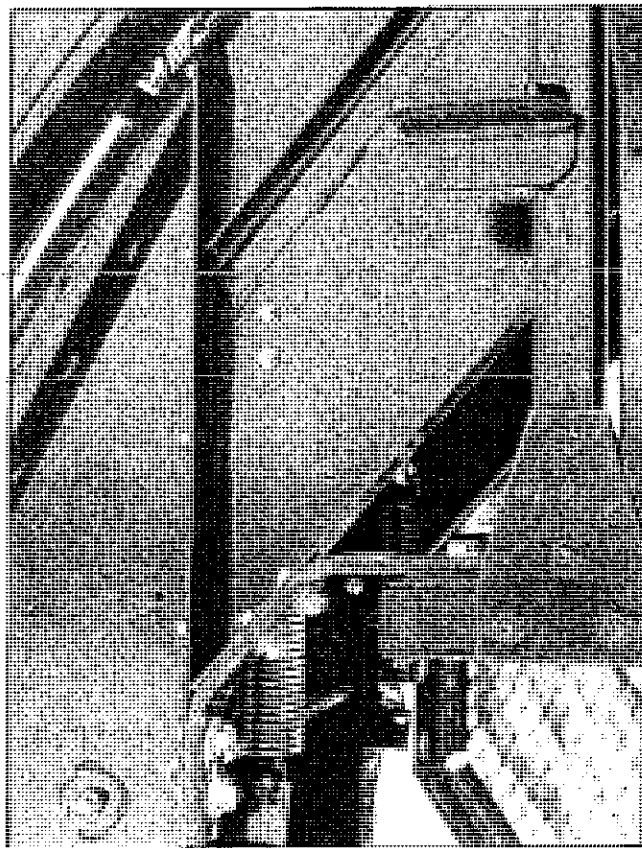

Figure 3.12: Upper Retainer Installation
(Refers to Figure 3.12) - Insert two (2) 5/8" x 2-1/2" hex bolts and two (2) 5/8" flat washers through angle on track and the retainer attaching brackets. Push retainer as close to the unloading elevator as possible and secure with two (2) 5/8" nuts, two (2) 5/8" lock washers and two (2) 5/8" flat washers. The retainer will be adjusted later.